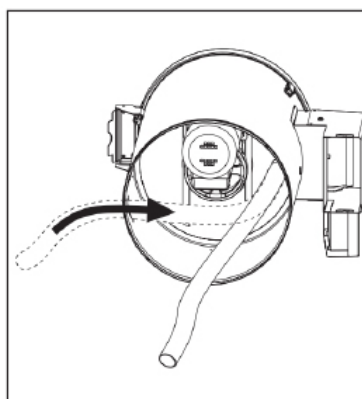

Fig. 11.
- Pull the drain tube out of the rear cylinder opening (Fig. 11).